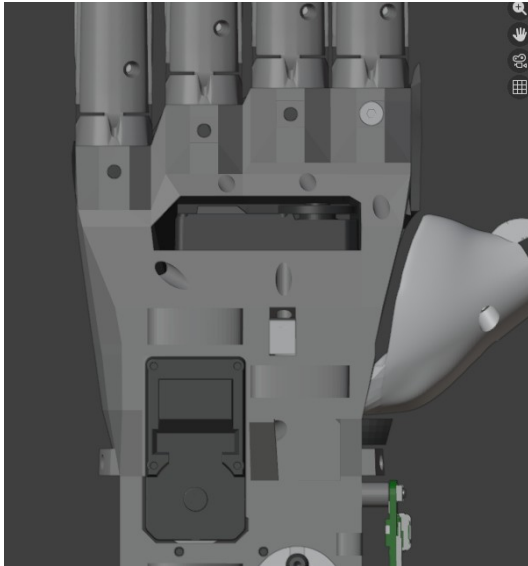

Figure 5.76: Skeleton - Upper cover area
4. Position the pins on one side of the front cover onto the corresponding interlocking holes on the skeleton, snap them into place, then, while rotating the cover, snap the pins on the other side into place. See figures 5.76 and 5.77.